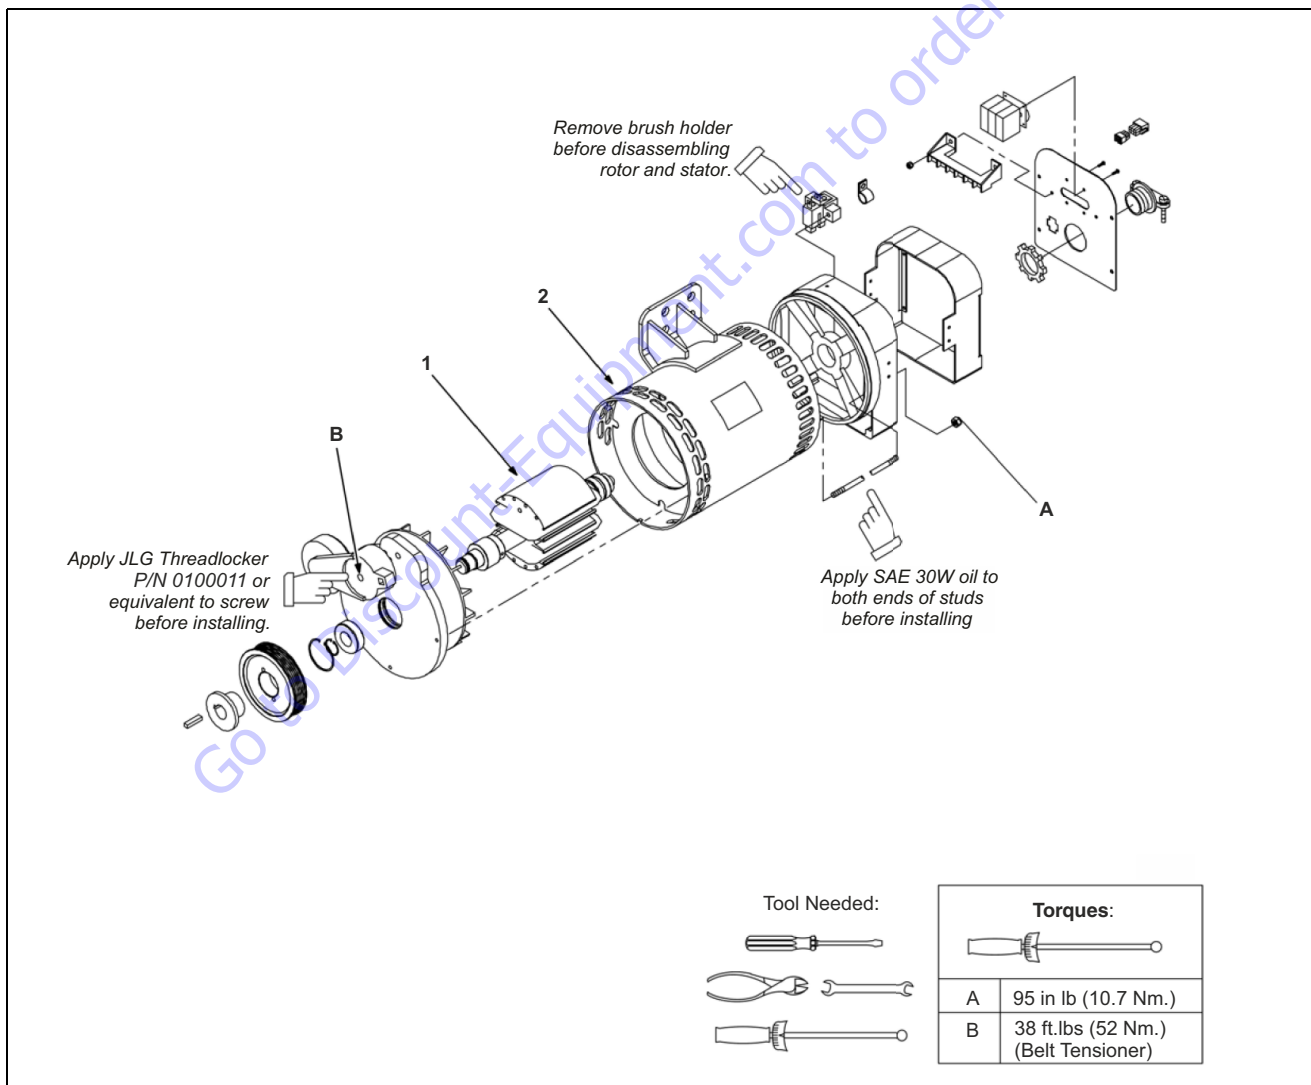

Figure 3-47. Generator Disassembly and Assembly
3. Disassemble generator parts shown in Figure 3-47.